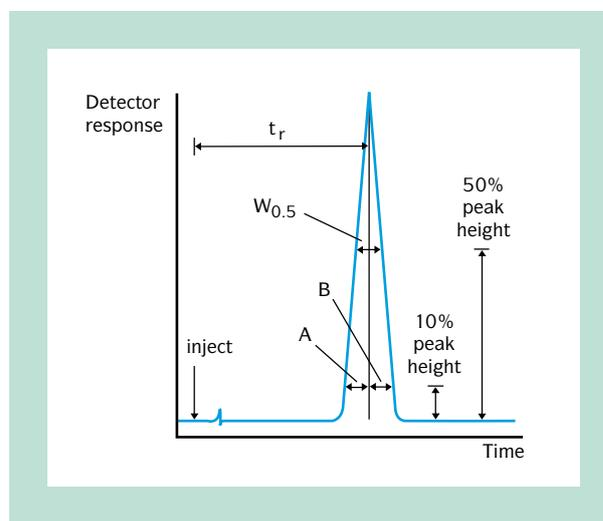

Figure 16 | Measurement of peak efficiency and peak asymmetry.
The efficiency for each compound is measured at 50% of peak height, figure 16.
The asymmetry factor (As,0.1) is determined from the front (A) and the back (B) peak widths at 10% peak height, figure 16.